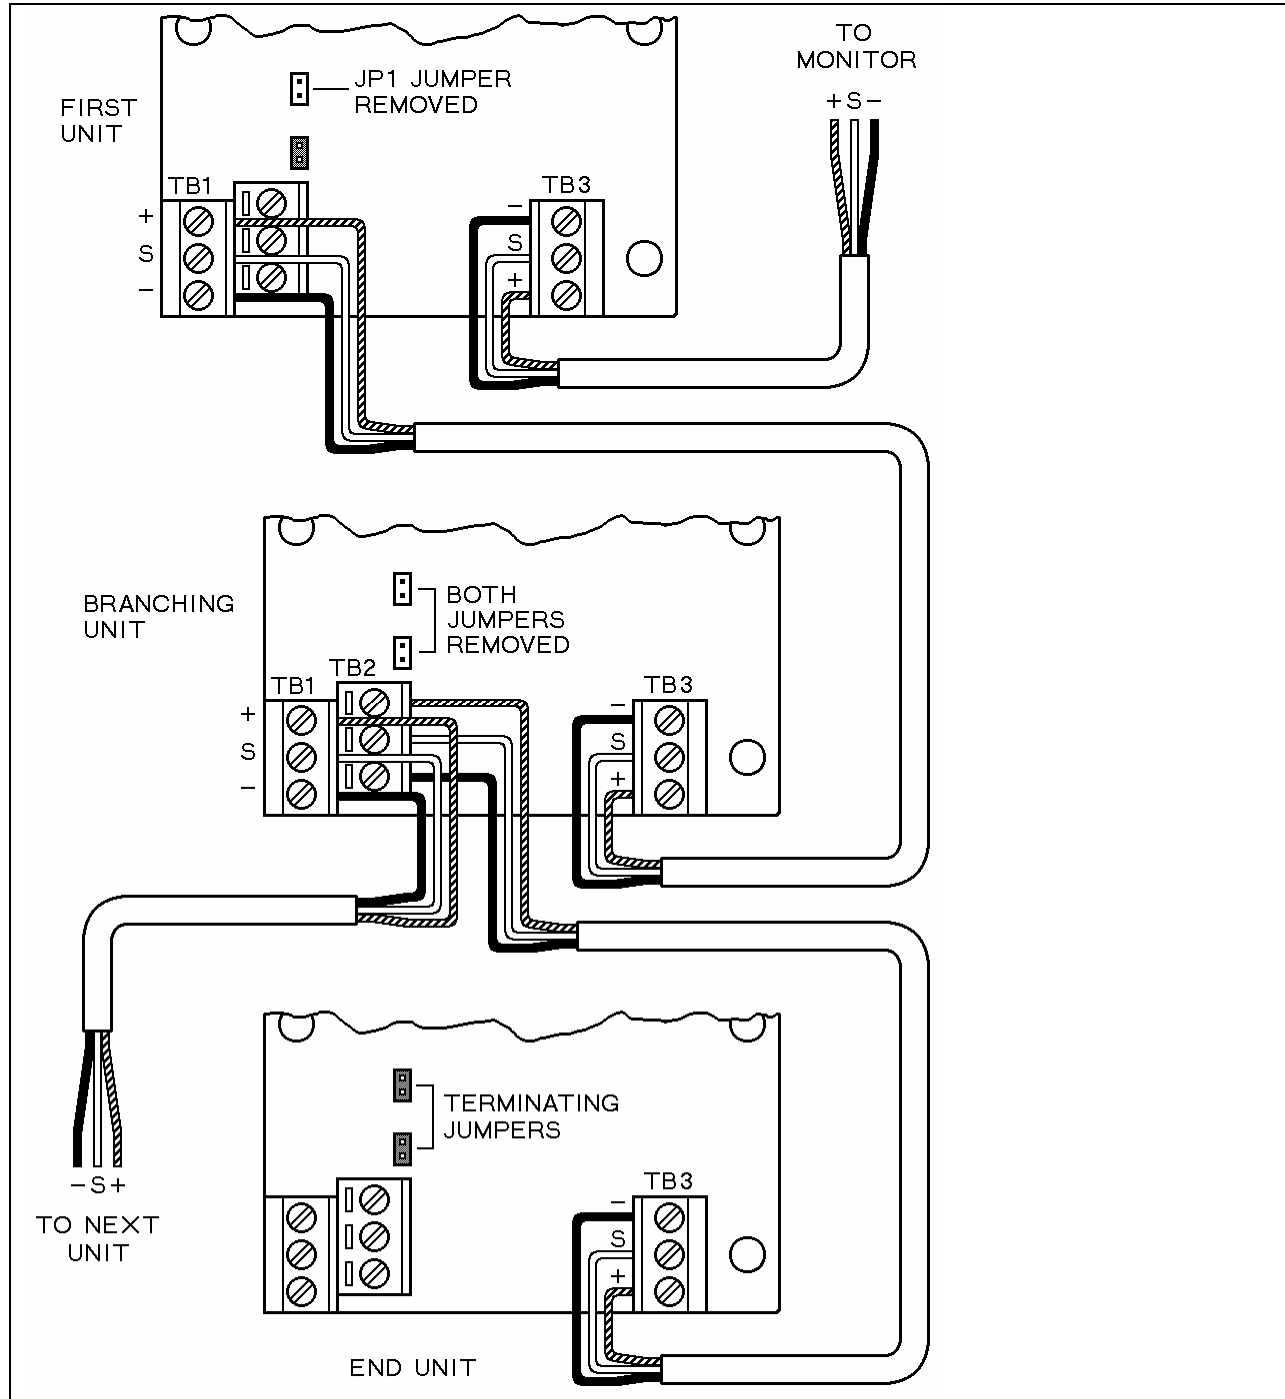

Figure 2 - Detail wiring of sensor modules
The AMC-1224, 1225 sensor unit provides continuous, reliable surveillance of surrounding air for traces of hazardous gases that are listed in the Product Information Section. This unit is designed to allow interconnection in series as in a "daisy chain" configuration (refer to Figure 2) to a single or multi-channel AMC-1022D series monitor or so equipped inputs of other AMC monitors. A maximum of eight (8) sensors can be connected to each zone. The units can also be branched out from the central line allowing maximum flexibility. Each unit provides Low alarm, High alarm and sensor Fail signals, which are transferred from one sensor to the next down the line back to the monitor.
To gain access to the terminal blocks, remove the four (4) screws and front panel from the housing. This will expose the field wiring terminals. The sensor / transmitter output (-,s,+) terminal block connects to the input terminal block of the previous unit or to the sensor / transmitter terminal block in the monitor as shown in Figure 2.
Each sensor is designed to interconnect to other units in series and/or parallel combinations. Various typical configurations are shown in Figure 3, illustrating the versatility of this type of system. Because each sensor is pre-calibrated, additional units can be added to a system without altering the monitor settings. When multiple units are interconnected, either some or all jumpers need to be removed. See Figure 2.
For any unused terminals a jumper has to be inserted. See Figure 2. Failure to do so may cause the system to malfunction.